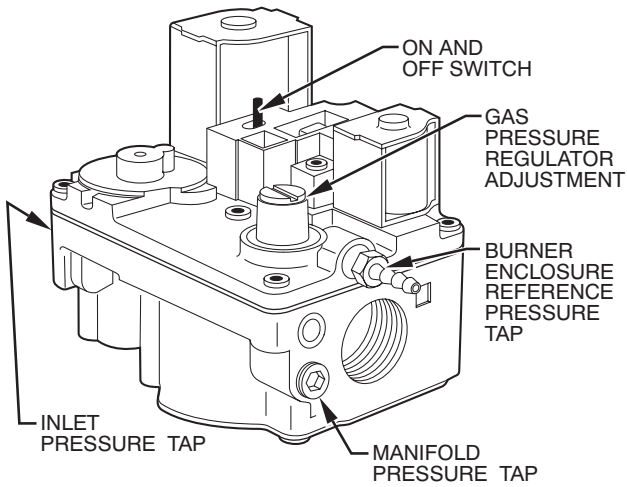
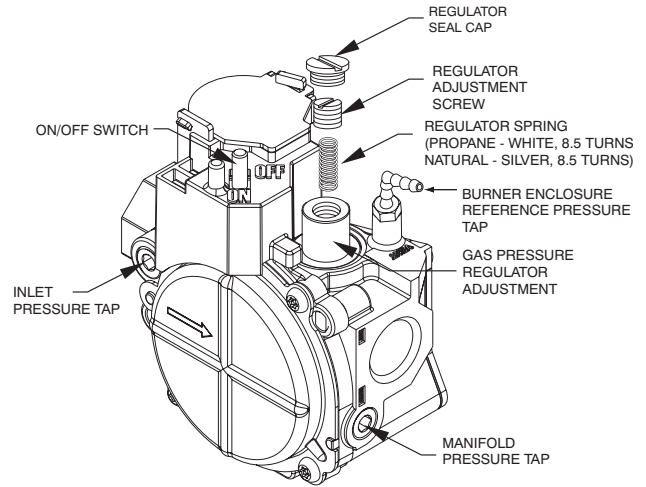

Fig. 2 – Single Stage Gas Valve (With Electric Control Switch), Series E
Fig. 5 – Single Stage Gas Valve, Series G
2. Remove regulator seal cap. (See Fig. 2, 3, 4 and 5.)
4. Install natural gas regulator spring (silver) in gas valve. Turn regulator adjustment screw clockwise (inwards) 10 turns for gas valve as shown in Fig. 2, 3 and 4 or 8.5 turns for Fig. 5.
2. Remove 1/8-in. pipe plug from inlet pressure tap on gas valve. (See Fig. 2, 3, 4 and 5.)
3. Attach manometer to manifold pressure tap on furnace gas valve. (See Fig. 2, 3, 4 and 5.)
2. Remove 1/8-in. pipe plug from manifold pressure tap on gas valve. (See Fig. 2, 3, 4, or 5.)
3. Attach manometer to manifold pressure tap on gas valve. (See Fig. 2, 3, 4, or 5.)